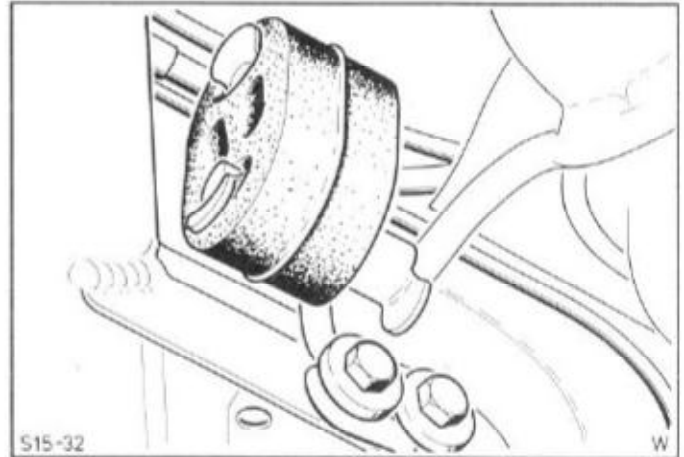

Fig.150. Unbolt rear left hand exhaust bracket when vehicle is fitted with a V6 engine.
2. Unbolt the rear left hand exhaust bracket when the vehicle is fitted with a V6 engine, and unhook the rubber loop from the tailpipe, Fig.150.